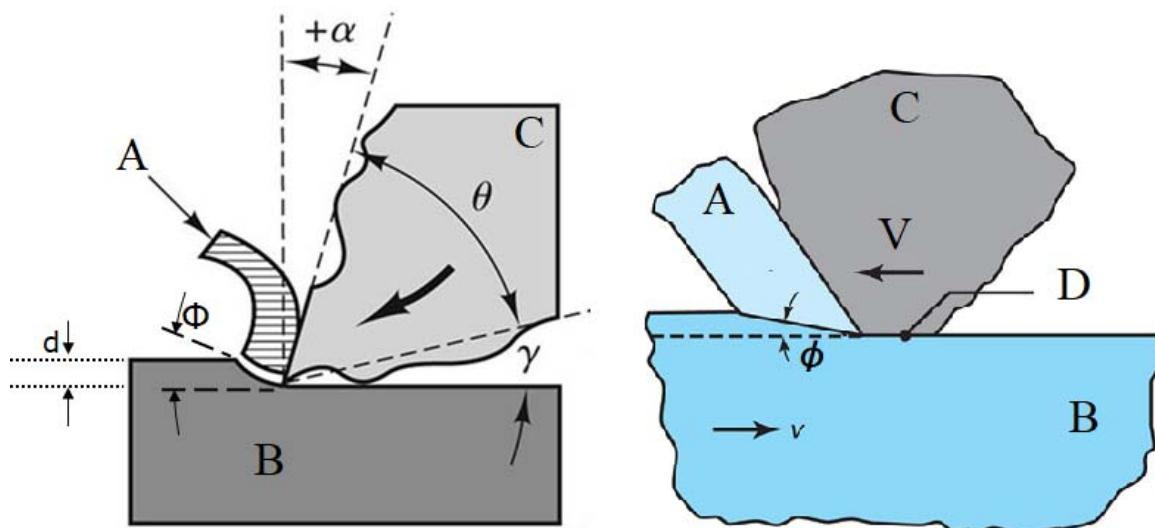

Figure 3[a]
- [a] Explain abrasive machining operation based on Figure 3[a] and label A, B, C, D, d, α , ϕ .